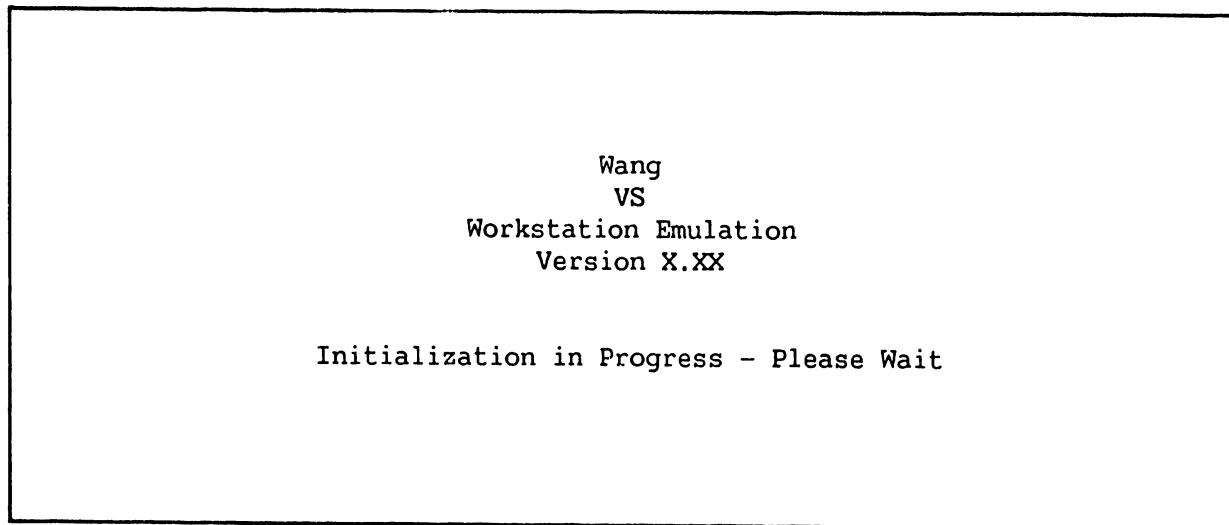

Figure 4-16. Workstation Initialization Screen
10. The Workstation Initialization Screen, figure 4-16, appears.